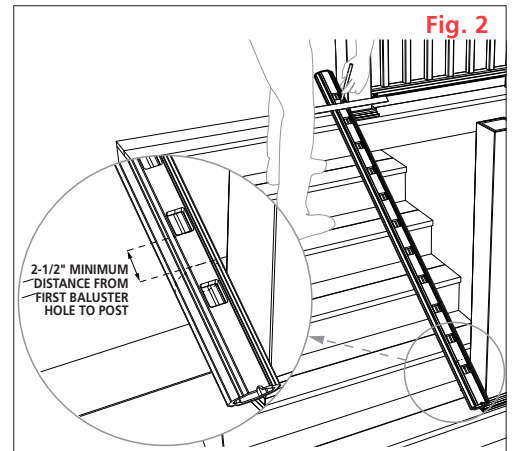

Fig. 2
- 2 Measure the length between posts and confirm which Marquee Railing Kit is required **(Fig. 2)**
- 2 Lay the bottom rail beside the posts with the notched end of the rail on the lower end of the stair section, pre-routed baluster holes facing upward. **(Fig. 2)** The rail should extend past the post sleeves on each side. Mark both ends of the rail where they cross the post sleeve.
- 2 Determine the post mount location. Using the 5-1/2" x 5-1/2" concrete surface plate as a guide, ensure that the distance from the edge of the concrete to the edge of the surface plate is at least 4-1/4". (Fig. 2)
- 3 Mark the location of the four concrete surface plate corner holes for drilling. (Fig. 2)